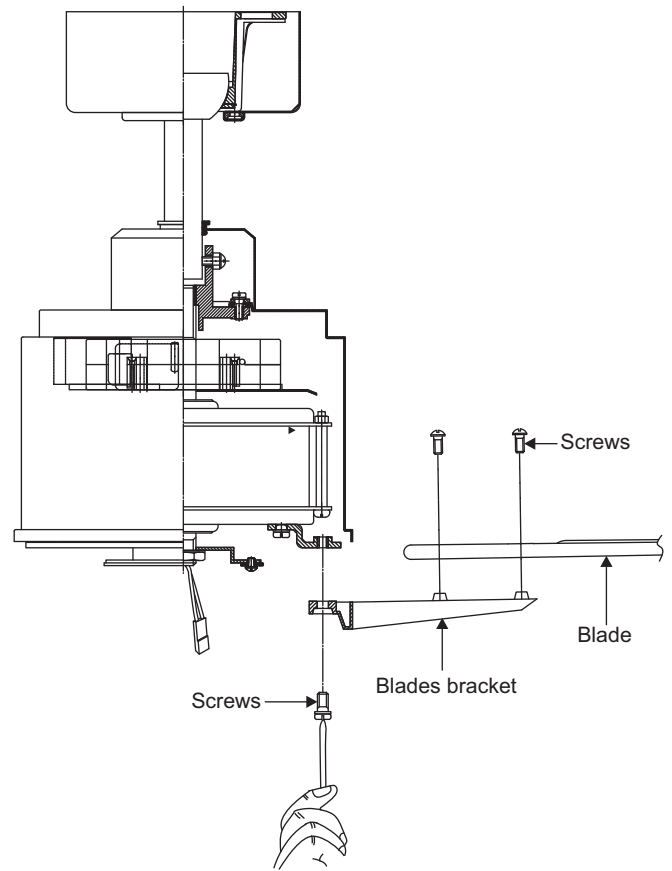

Figure 12
Step 1. Attach the blade to the blade bracket using the screws as shown in Figure 12. Start screw into bracket. Repeat for the two remaining screws.
Step 3. Fasten blade assembly to motor using the screws supplied. (Fig. 12)